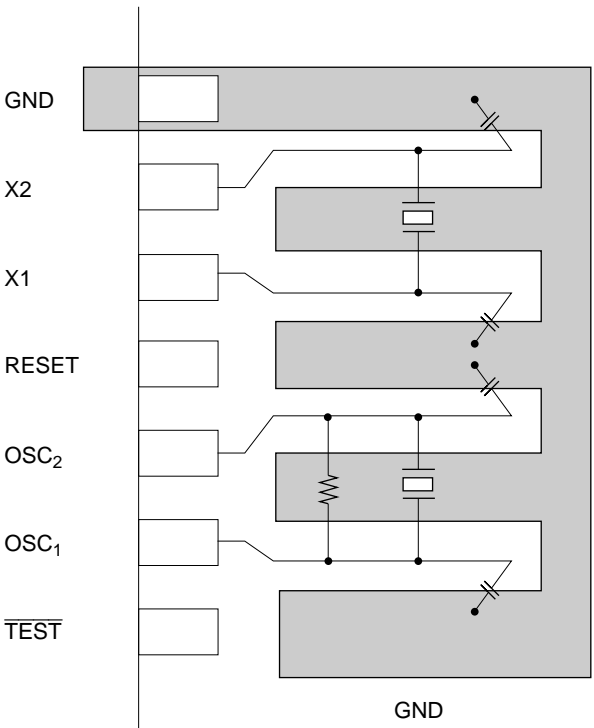

Figure 26 Typical Layouts of Crystal and Ceramic Oscillator
2. The wiring between the OSC₁, OSC₂ (X1 and X2 pins), and the other elements should be as short as possible, and must not cross other wiring. Refer to figure 26.